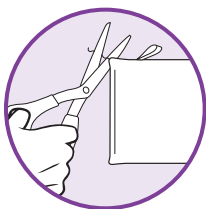

fig. 28
- 2 If there are loose threads on the cleaning pad carefully cut the thread with scissors. Do not pull on them or cut at the base. (fig. 28)